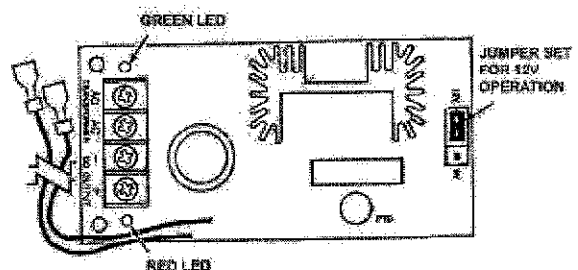

Figure 1: MG1261.5A power Supply
- MG1261.5A is preset for 12VDC operation. If 6VDC is required, reposition the jumper to 6VDC (See figure 1)